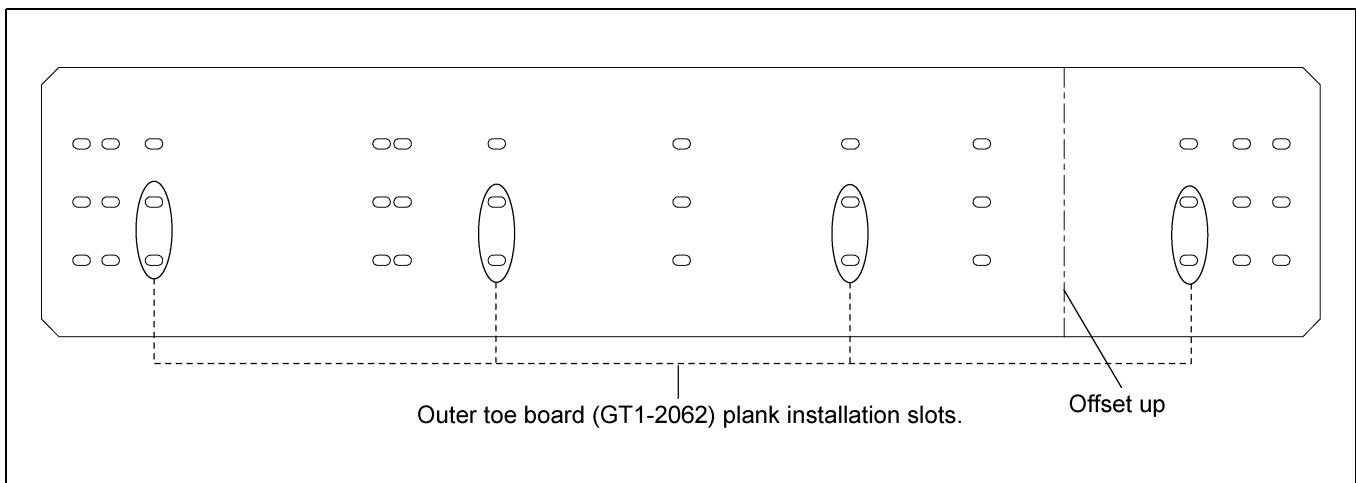

Figure 5H 12' Outer Toe Board (GT1-2062)
4. Outer toe board (GT1-2062) is arranged with many slots to install plank. Install planks to corresponding slots as shown in Figure 5H.